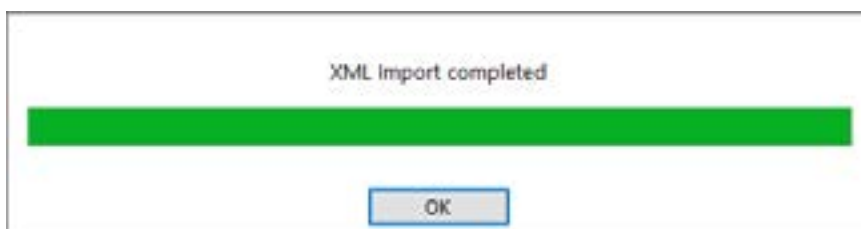

Figure 3.39 Configuration – Successful import
a) If the XML configuration file is successfully imported (Fig. 3.39), click on “OK”.